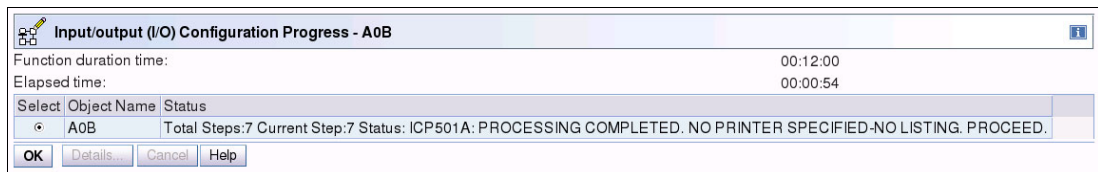

Figure 6-138 HMC - SAIOCP - build process status message
18. Status messages are displayed during the build process. After the process completes successfully, a message is displayed (Figure 6-138). Click **OK**.